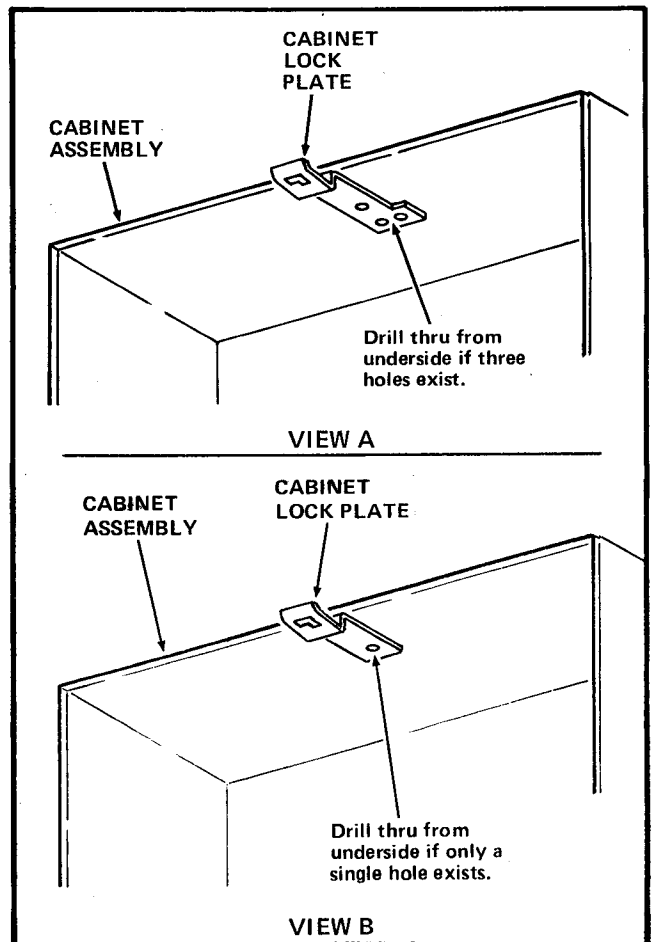

Figure I-4
1. *If the Cabinet Lock Plate has three 13/32" holes in it, skip steps I-22 through I-32a and follow step I-31b. Skip steps I-32 through I-42 and follow step I-43, skip I-44 and follow I-45 through I-50. See Figure I-4 View "A".*
2. *If the Cabinet Lock Plate has only one 13/32" hole in it skip steps I-22 through I-30 and follow steps I-31a (skip step I-31b) and I-32 through I-50 only. See Figure I-4 View "B".*
1. *If the Cabinet Lock Plate has three 13/32" holes in it, skip steps I-22 through I-31a and follow step I-31b. Skip steps I-32 through I-41 and follow step I-43, skip step I-44, and follow steps I-45 through I-50. See Figure I-4 View "A".*
2. *If the Cabinet Door Plate has only one 13/32" hole in it skip steps I-22 through I-30 and follow steps I-31a (skip step I-31b) and follow steps I-32 through I-50 only. See Figure I-4. View "B".*